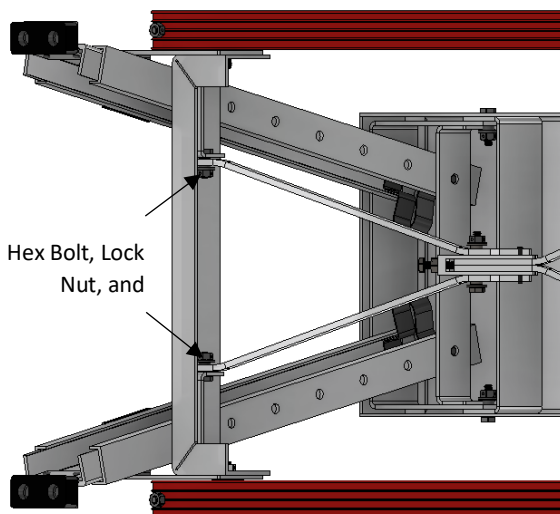

Figure 3
5. Unthread the two 1/4"-20 center lock nuts and remove the two 1/4"-20 x 3/4" hex bolts and bushings from the mounting bracket on the Permanent Leg Assembly (EDI: 40125) as indicated in Figure 3.
8. Using the two remaining **new** bushings, place a bushing through each of the mounting holes on the short lower strut of the Locking Brace Assembly and align the mounting holes of the short lower strut with the holes on the mounting brackets of the Permanent Leg Assembly as indicated in Figure 3.
9. Using a **new** 1/4"-20 x 3/4" hex bolt, insert the new hex bolt through one of the holes on one of the mounting brackets on the Permanent Leg Assembly and through the bushing in the mounting hole on the short lower strut as indicated in Figure 3.